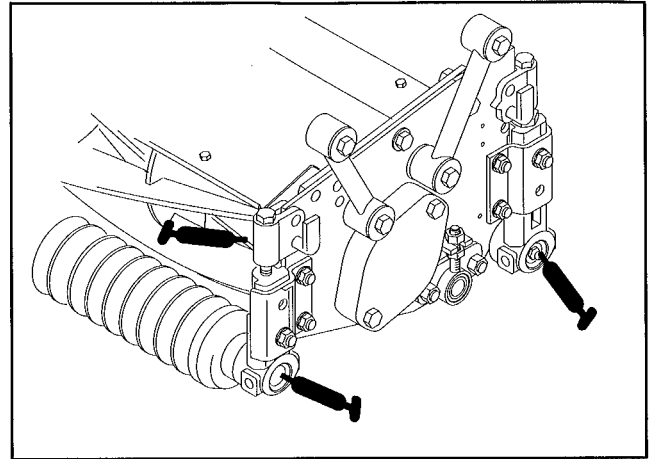
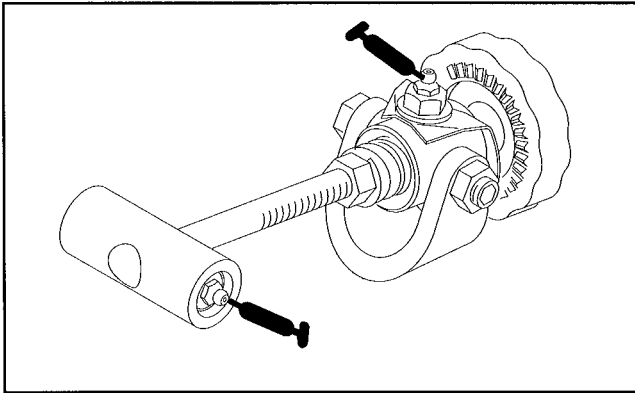

Figure 7
Figure 6
1. The grease fitting locations and quantities are: Bedknife adjuster (2) (Fig. 6); Reel bearings (inside sideplate), (2) and front and rear rollers (2 ea.) (Fig. 7)